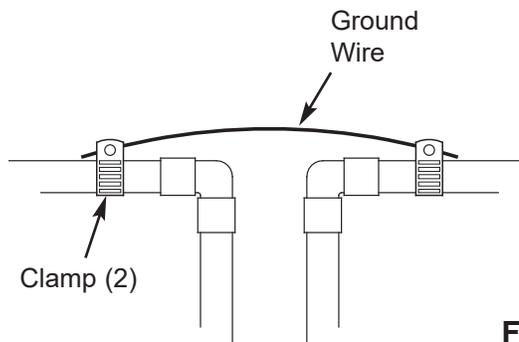

FIG. 5
- Install a #4 copper wire across the removed section of main water pipe, securely clamping at both ends (See Figure 5) Parts not included.